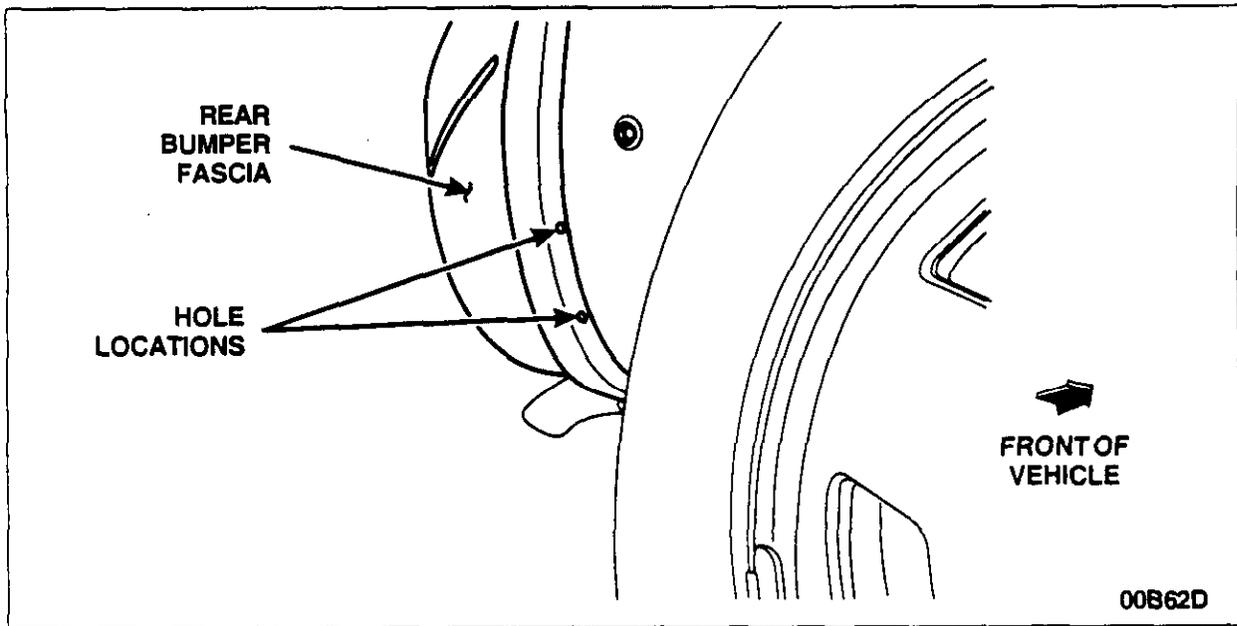

FIGURE 4
3. Drill 6.530 mm (1/4 in) holes in the marked locations. See Figure 4.
4. Install the J-clips over the two (2) drilled holes as shown. See Figure 4.